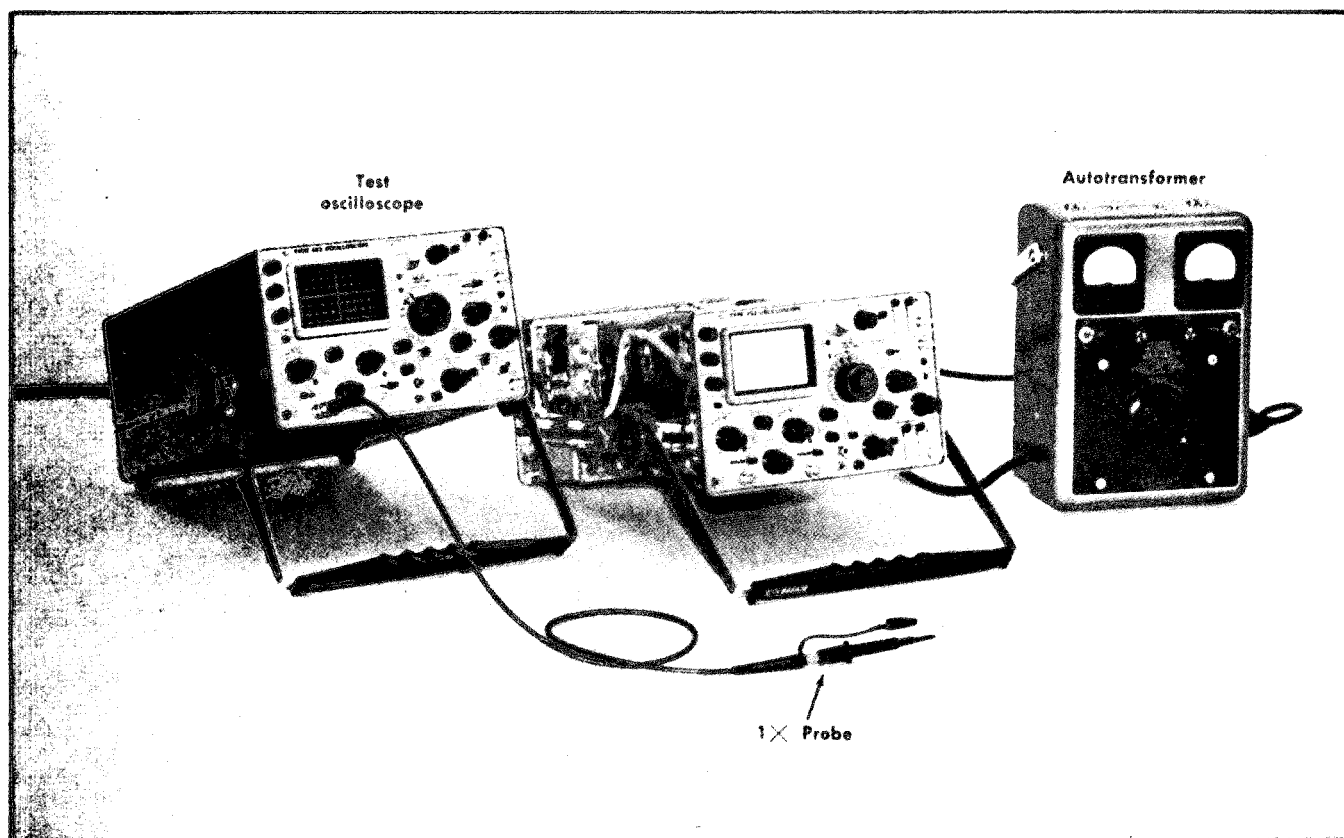

Fig. 6-7. Test equipment setup for steps 6 and 7.
- Test equipment setup is shown in Fig. 6-7.